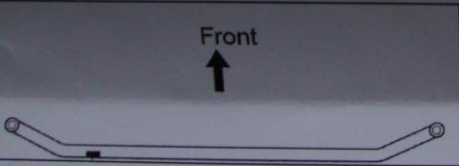

Fig. 3-1
- (a) Install the TRD RSB in the same orientation on the vehicle as the OE stock bar. (Fig. 3-1)
- (1) Torque all bolts and nuts to 144 lbf•ft (195 N•m) (+/-7 lbf•ft (9.5 N•m))